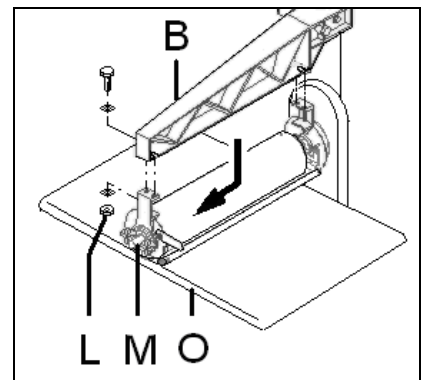

Fig 16
Rise the conveyor table (O, Fig 16) to the highest position, to support the entire brush assembly (M).